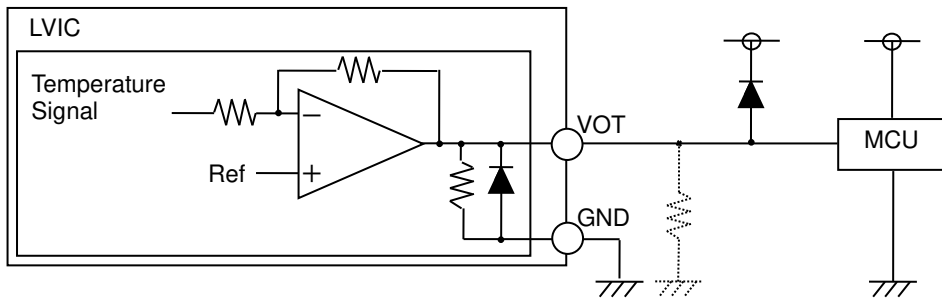

Figure 16. Example of VOT External Circuit
- 7) VOT pin (Refer to Figure 16)